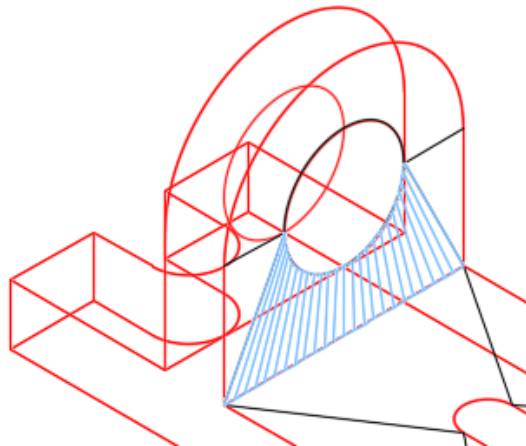

Figure Step 19
Step 19 On layer: Surface 1, insert a ruled surface. (Figure Step 19)